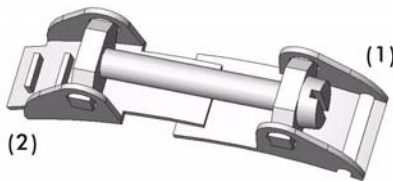

Fig. 7.3: Clasp
- Place the transducer shoe on the pipe. Hold clasp and transducer shoe with one hand while pushing the tension strap through parts (2) and (1) of the clasp (see Fig. 7.3).